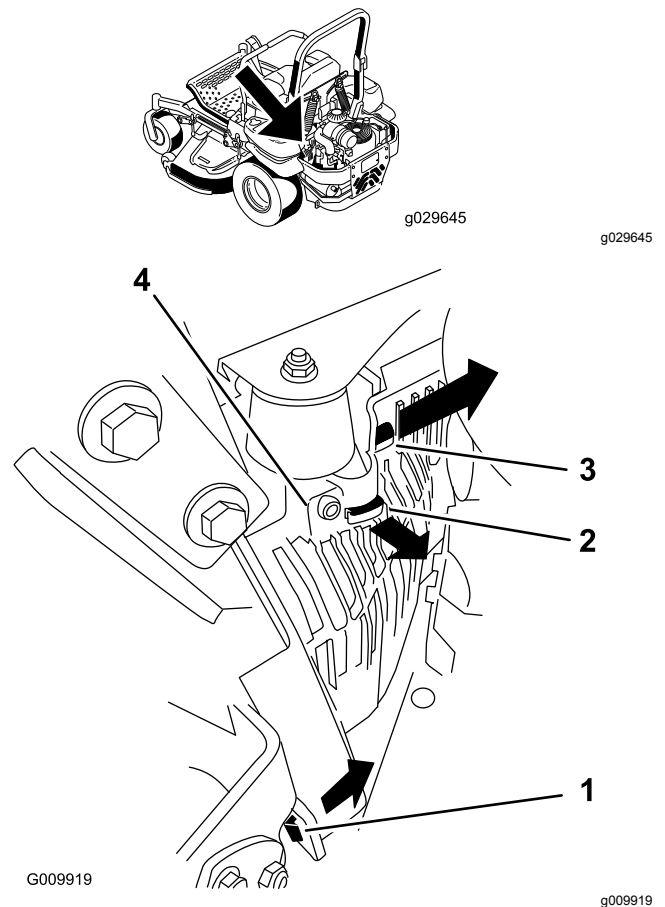

Figure 56
3. Remove the left hand hydraulic-unit shroud in the order listed in Figure 56.
5. Install the left hydraulic-unit shroud (Figure 56).